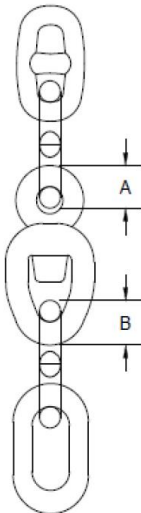

Figure 6 - Required measurements for a swivel assembly
Two measurements are required for a swivel, one at the eye and the other at the bow as shown by dimensions (A) and (B), in figure 6. As the swivel is part of the riser leg, it will always be in tension and therefore double bar diameters are required.